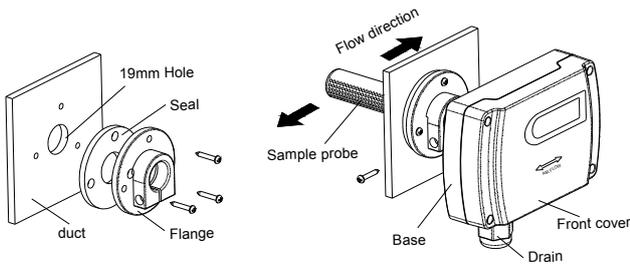

Fig.2
1. Install via the flange as Fig.2. Drill a $\phi 19\text{mm}$ hole on the duct, install the seal ring and the flange on, then insert the probe into, screw to lock the whole enclosure on the flange.